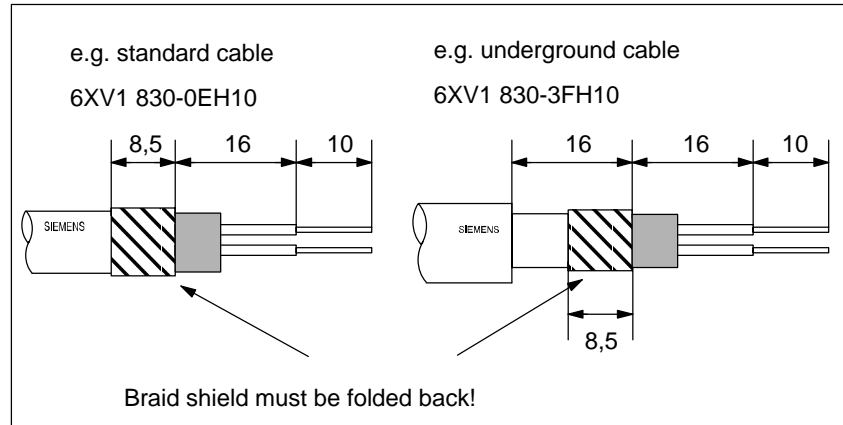

Figure 5-10 Stripping the Insulation to Connect to the PROFIBUS Terminator
2. Strip the insulation from the PROFIBUS cable as shown in Figure 5-10.